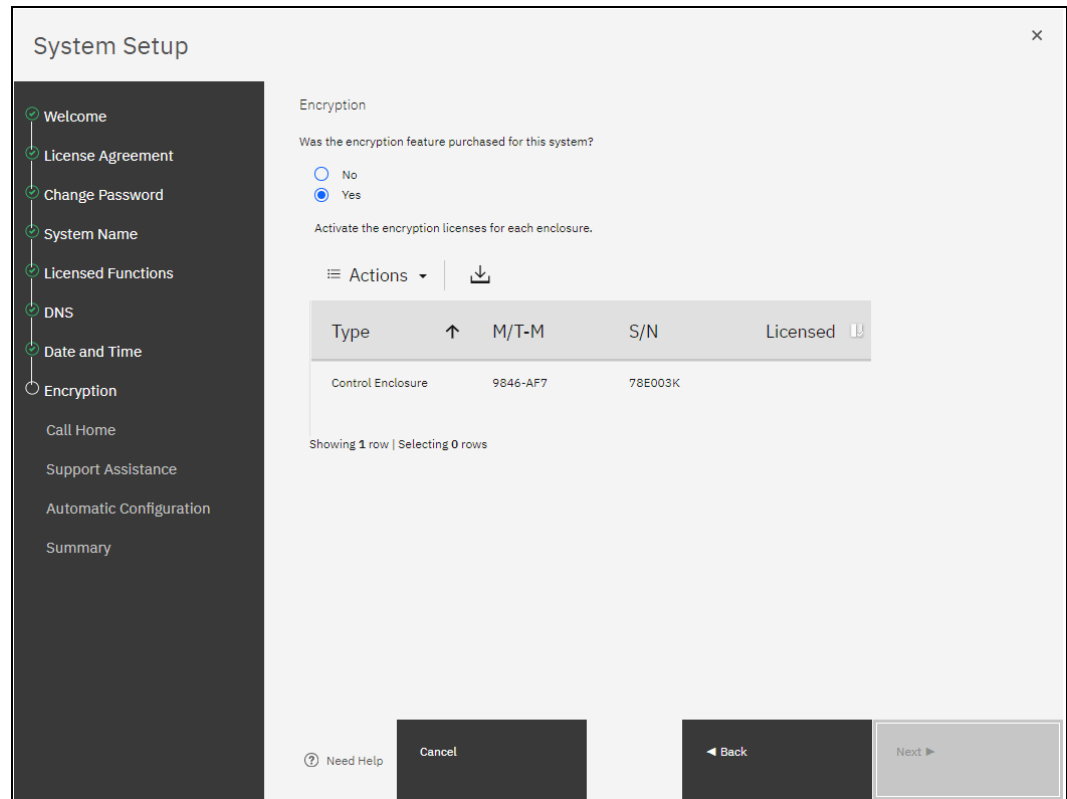

Figure 2-31 Activate Encryption License
20. If you have purchased an Encryption License, activate it here. See Figure 2-31 on page 42.